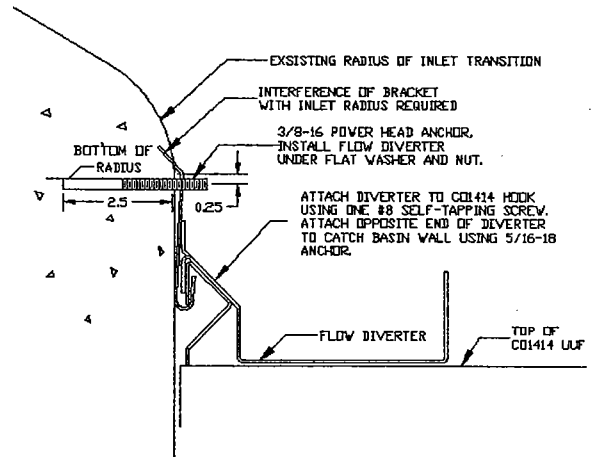

Figure 2.
- Cross-sectional view shown in Figure 2 gives the suggested elevation of anchor bolts and the interference between the bracket's flange and the inlet radius.
- The bent down flange of the Flow Diverter should engage the bracket and sit on top of the hook of the UUF box as shown in figures 2 and 5.